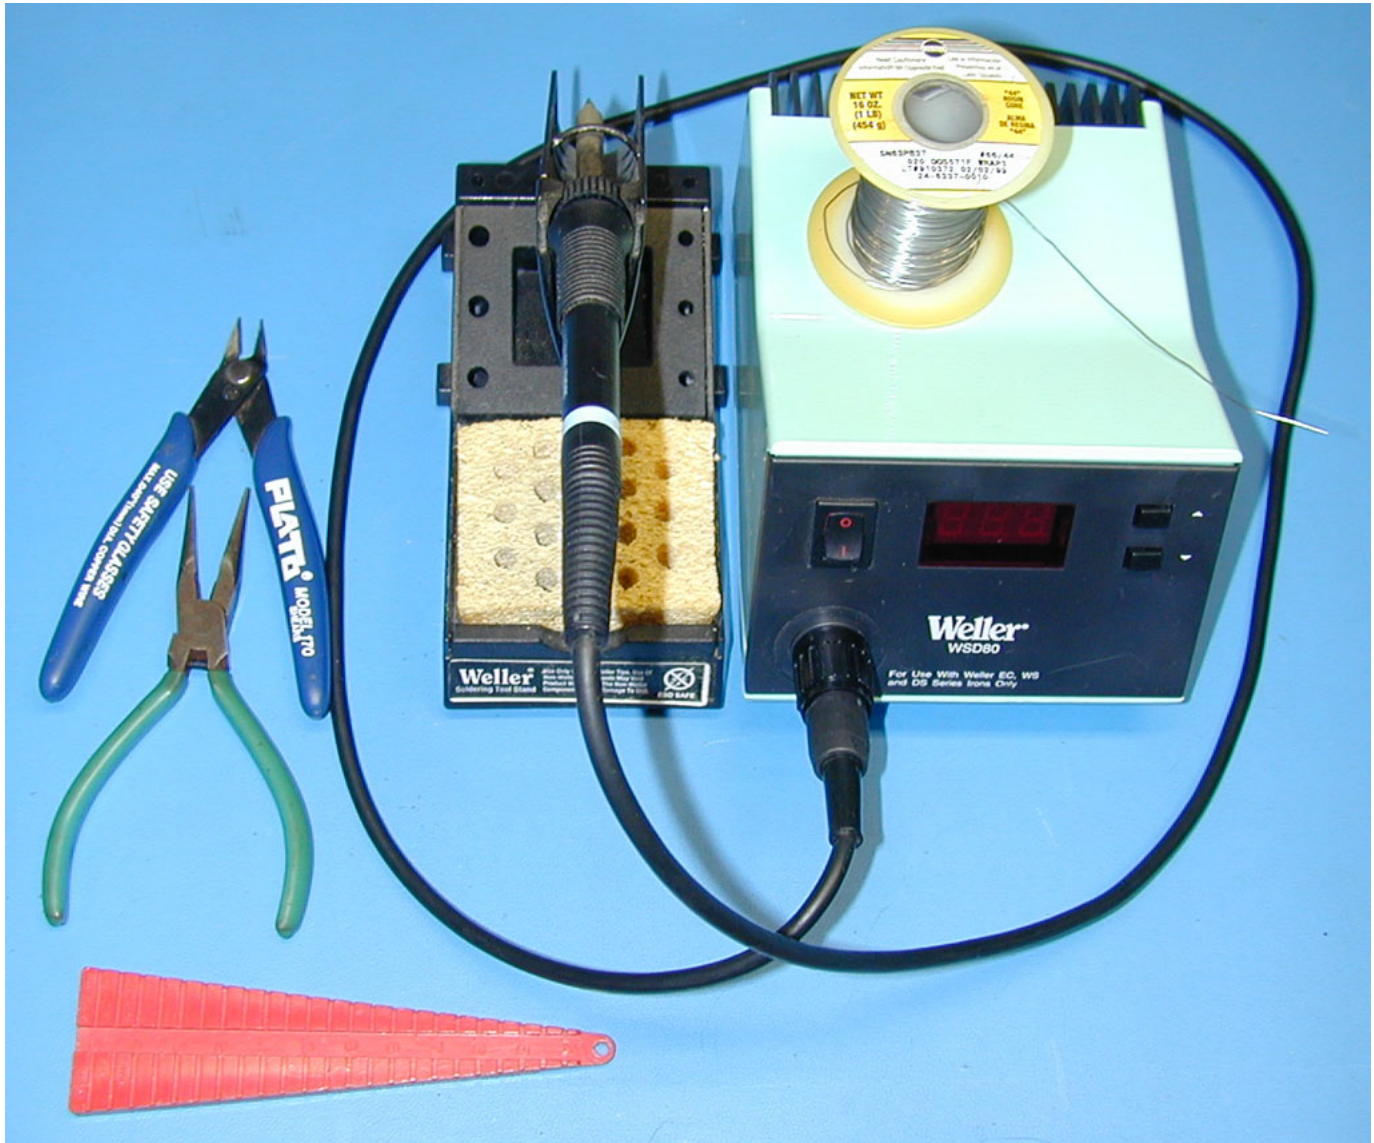
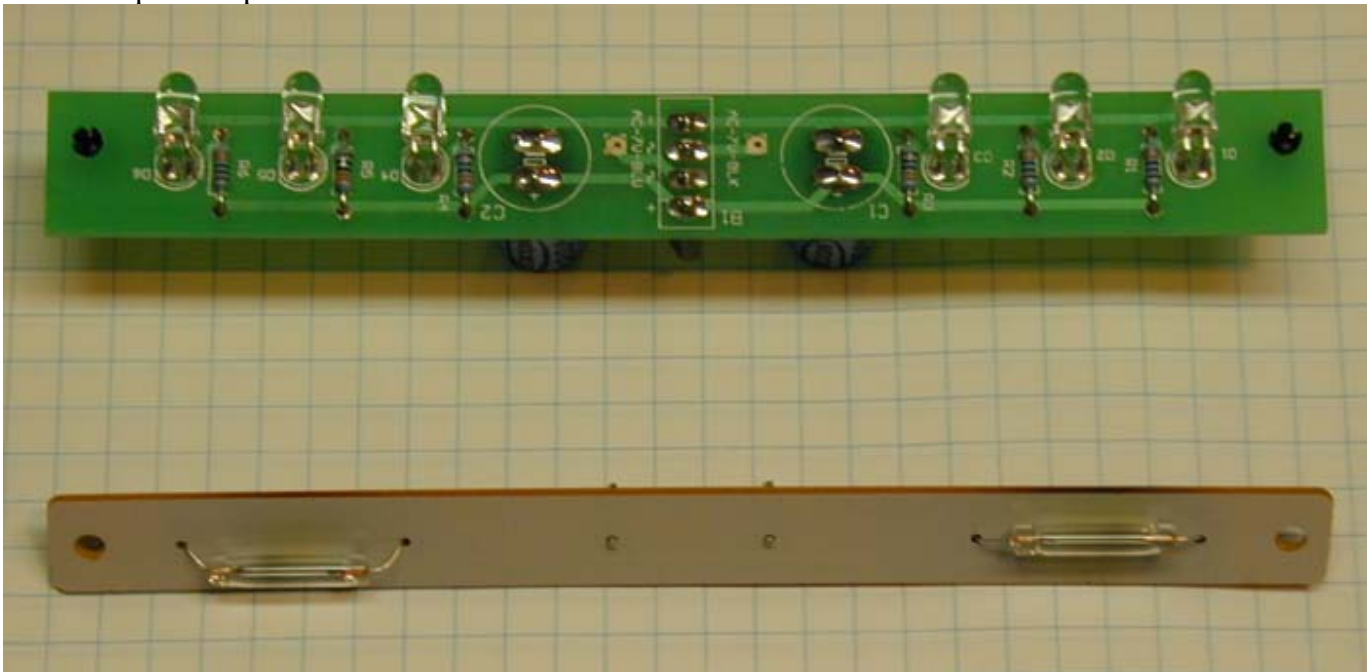

Figure 2: Tools Required
Figure 5 Silkscreen side assembly
1. Bend the 6 LEDs to the proper shape as shown in Figure 5. Use the PC board thickness as a guide for where to bend the LED leads. The board is 1/16" thick. Using it, you will create a 90 degree bend in the lead wires 1/16" from the clear plastic base of the LED. **IMPORTANT:** LEDs are polarized. Each LED has a small flat adjacent one of the 2 leads. This signifies the cathode or negative side of the LED. The cathode lead length is also the shorter of the 2 leads coming out of the LED. Bend 3 LEDs in one direction and the remaining 3 in the opposite direction to match the imprints on the blank PCB. The board silkscreen is printed so that it shows this flat. Make sure you install the LEDs with the correct polarity or the light board will not work and you may damage the LEDs or your tuner. Also ensure that you install the LEDs so they point in the proper direction. The board is asymmetrical with respect to the mounting holes for the board. Look carefully at Figure 2 for proper orientation. All 6 LEDs should point away from the B1 (bridge rectifier) reference nomenclature on the silkscreen.
2. Carefully solder each LED to the board as shown in the Figure 5. Space the plastic body of each LED approximately 1/16" off the face of the board. This will position the LEDs properly to shine into the top of each meter. Check the polarity of each LED before you solder it into place, aligning the flat on the LED plastic body with the imprint on the PC board silkscreen. After soldering, clip the excess lead length leaving about 1/16" protruding from the PC board surface.
3. After you have soldered all 6 of the LEDs in, bend the leads of each of the six 330 ohm resistors on 0.4 inch (10mm) centers as shown in the photo. Carefully install each resistor into the locations marked R1 through R6 as shown in the photo, matching the imprint on the PC board silkscreen. Resistors are not polarized so it does not matter which way you orient them. Carefully solder each resistor to the board. After soldering, clip the excess lead length leaving about 1/16" protruding from the PC board surface. This side of the board should look like Figure 5 when this step is complete.